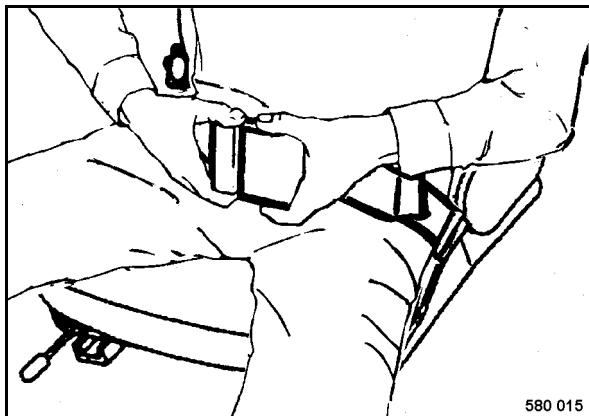

Fig. 25
- Put your seat belt on (Fig. 25).